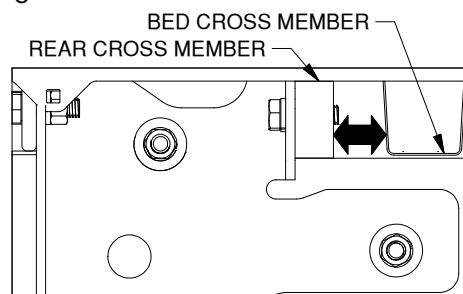

Figure D1: View looking at driver side plate.
1. **Square the hitch.** Start by hand tightening each of the bolts attaching the center section to the cross members. Next, with a tape measure, check the distance between the Turnoverball hitch and the nearest bed cross member. The distance between the hitch and the cross member should be consistent on the driver side and the passenger side of the hitch, see Figure D1.